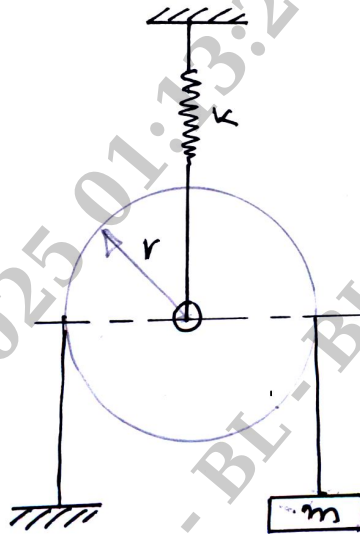

Fig.Q7 (b)
- 7 b. Determine the equation of motion and natural frequency of the system shown in Fig. Q7 (b) using Newton's method. (10 Marks)